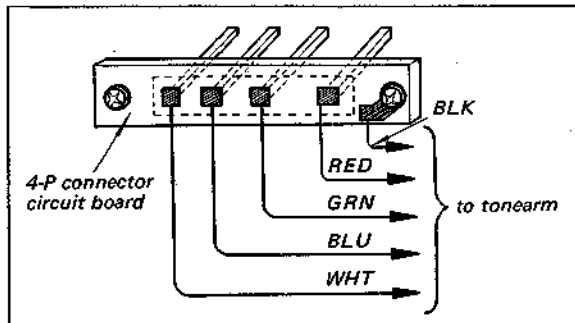

Fig. 2-17. Lead wire connection
4. Unsolder the four lead wires of tonearm at 4-P connector circuit board. Refer to Fig. 2-17, when reconnecting the lead wires to the 4-P connector circuit board.